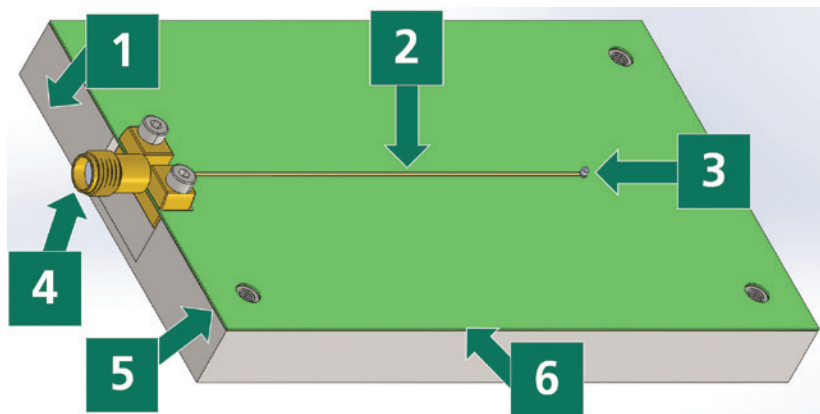

Figure 1: Discharge current sensor
The DCS (Figure 1) developed for this study is a compact setup designed for integration within assembly machines. It utilizes a 50 Ω microstrip line (2) terminated by a miniature pogo-pin (3). Using up to 10 thin-film resistors between the pogo-pin and ground plane, it allows to accurately measure the discharge current. The sensor's design allows for minimal mismatch and high-frequency bandwidth.